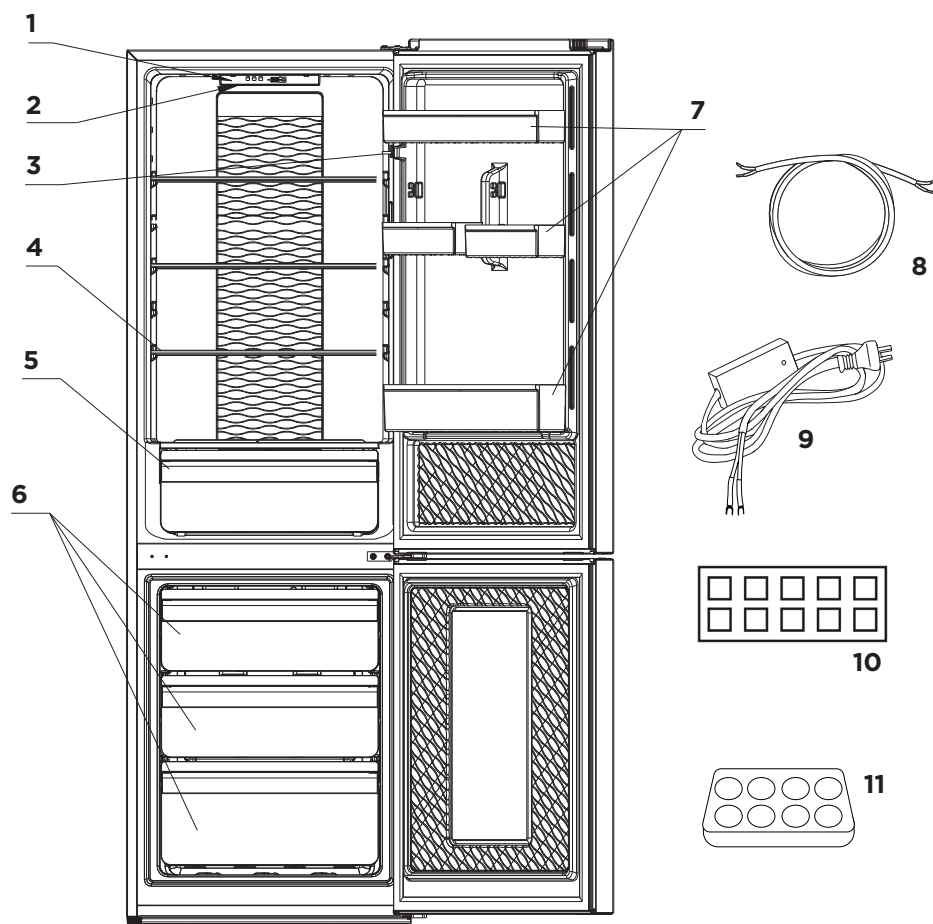

fig. 1
- Fix part 19 (door stopper) to the bottom of the fridge door and install fridge door (fig.1)